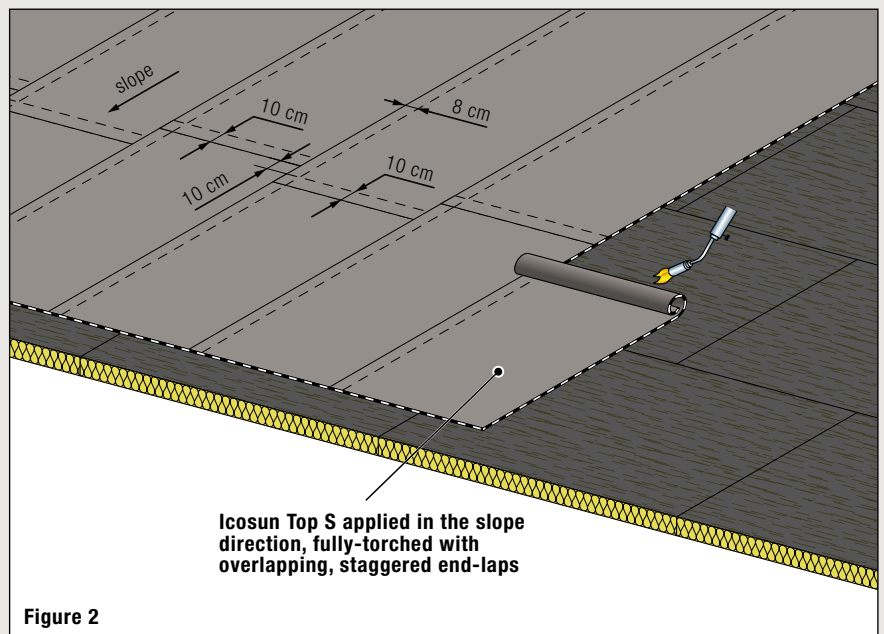

Figure 2
- By torching directly onto torchable insulating board (mineral wool board with bitumen surfacing, perlite+fiber board with bitumen surfacing, polyisocyanurate board, foamglass board with bitumen coating). See Fig. 2.